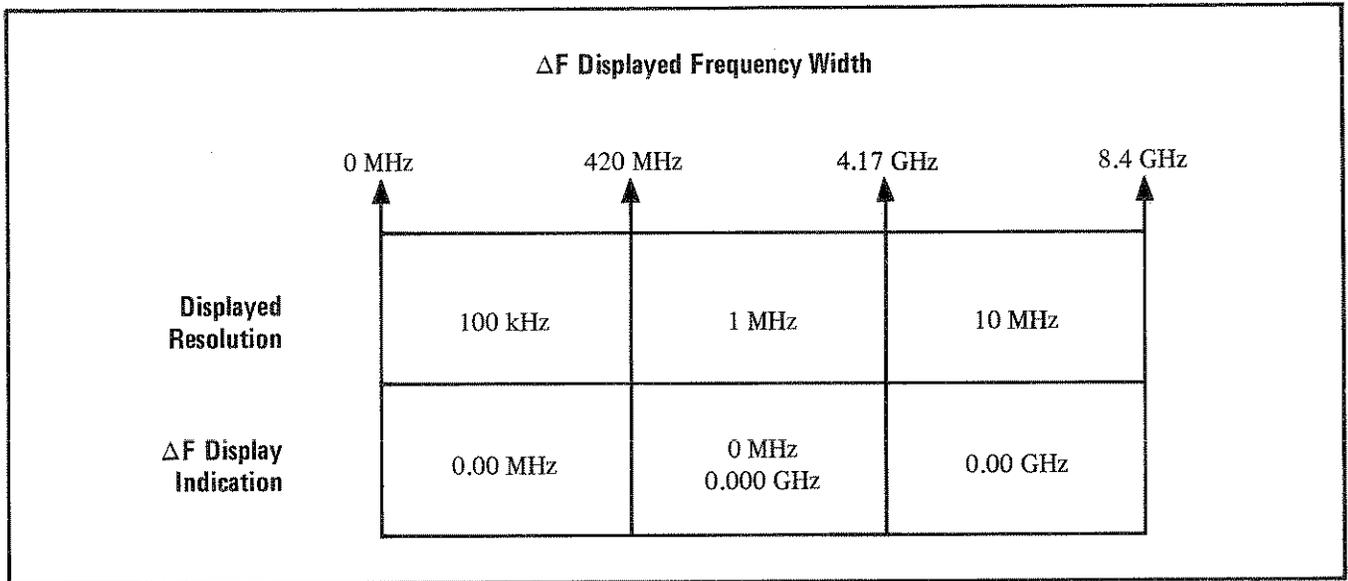

Figure 3-2. Model 83540A ΔF Sweep Mode Displayed Resolution
3-10. Center Frequency (CF) is always displayed with 1 MHz resolution. Likewise, Vernier values are always displayed at 10 kHz resolution. Display resolutions for ΔF values vary with sweep width. Figure 3-2 illustrates the relationship of ΔF mode display resolution and ΔF sweep widths.